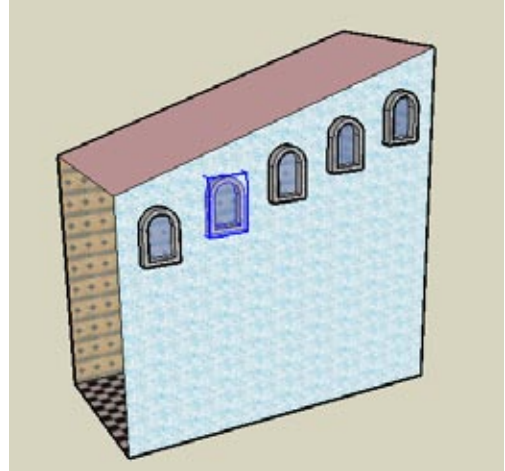

Figure 1-37
3. Using the method demonstrated in Recipe 1.1, enter the number of copies you want (say, $4x$) and adjust the spacing to get a line of sloped windows (Figure 1-37). The spacing is the distance measured along the diagonal edge.